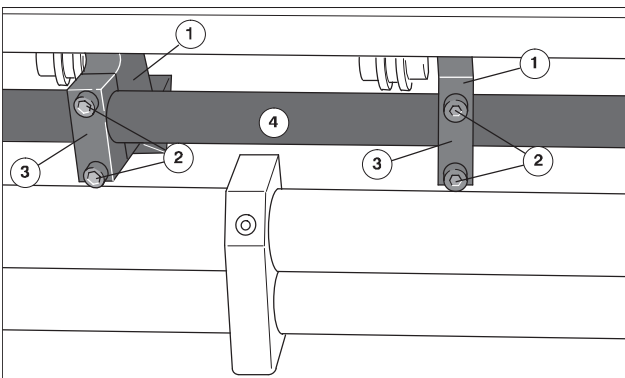

Fig. 10 Inserting the cams
1. Loosen the Allen screws (Fig. 10/2) at the cam (Fig. 10/1).
2. Remove the rear half-shell (Fig. 10/3).
3. Slide cam (Fig. 10/1) to the control shaft (Fig. 10/4).
4. Place the half-shell (Fig. 10/3) at the control shaft and screw to the cam with the Allen screws (Fig. 10/2). Only tighten the screws after the cam is correctly positioned.